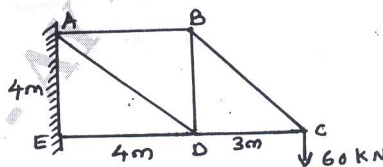

Fig Q6
- 6 Determine the vertical deflection at the free end of the truss shown in Fig Q6, using unit load method. The cross sectioned areas of members AD and DE are  $1500 \text{ mm}^2$ , while those of other members are  $1000 \text{ mm}^2$ . Take  $E = 200 \text{ kN/mm}^2$ .